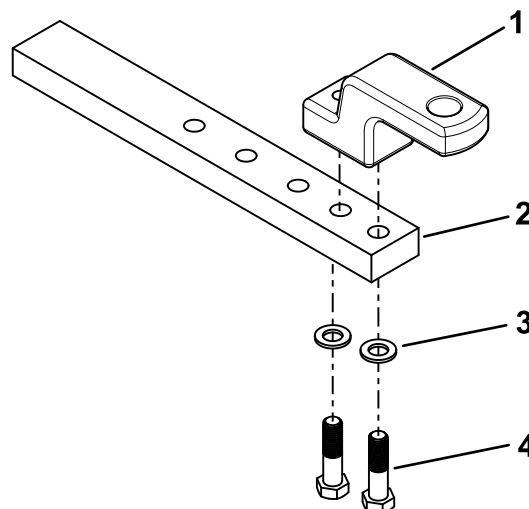

Figure 6
1. Use 2 screws (M18) and 2 washers to secure the hammer strap to the drawbar (Figure 6).